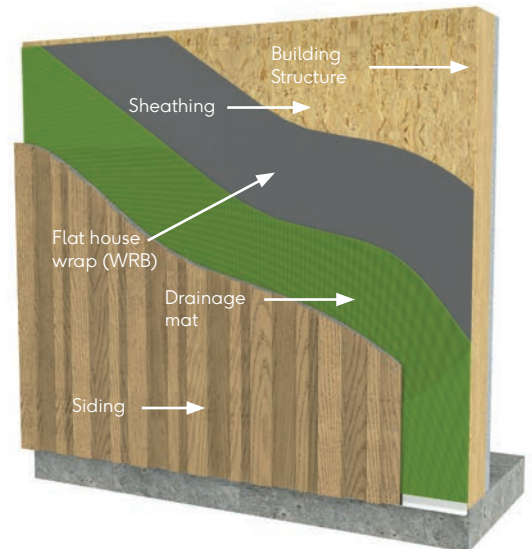

Fig. 3 - Typical wall build-up with rainscreen drainage mat
1. Add a rainscreen drainage mat. This usually provides a 1/4" - 3/8" gap behind the boards. (Fig 3)